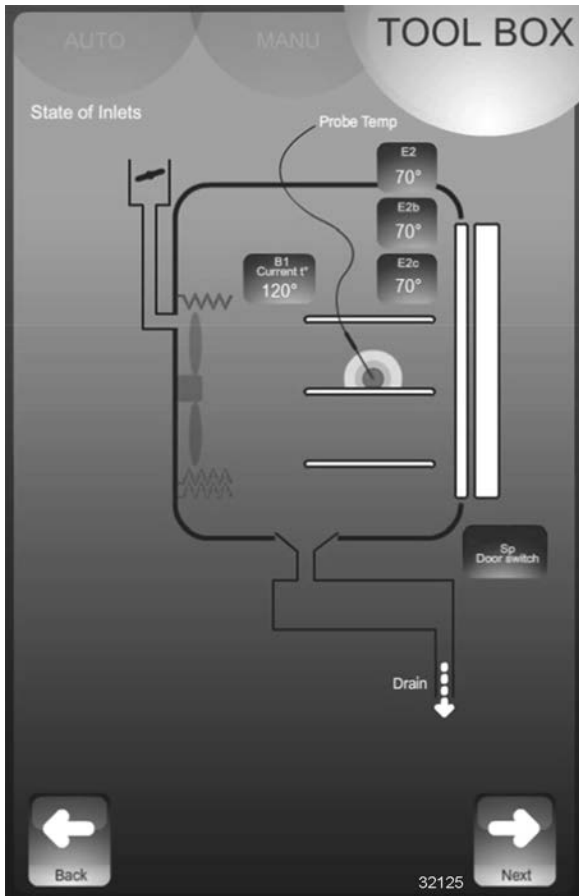

Fig. 97
5. Select **Next** icon to show **State of Inlets** screen (Fig. 97). Additional information is available in .